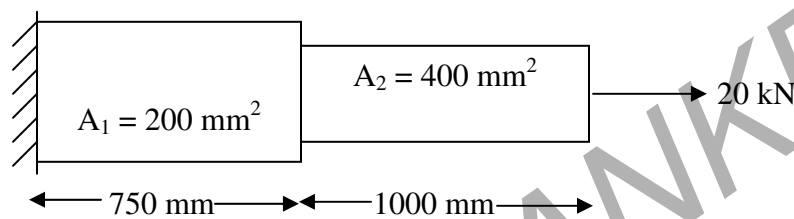

Figure: 1
2. Figure: 1 depicts an assembly of two bar elements made of different materials. Determine the nodal displacements, element stresses, and the reaction force. [16]